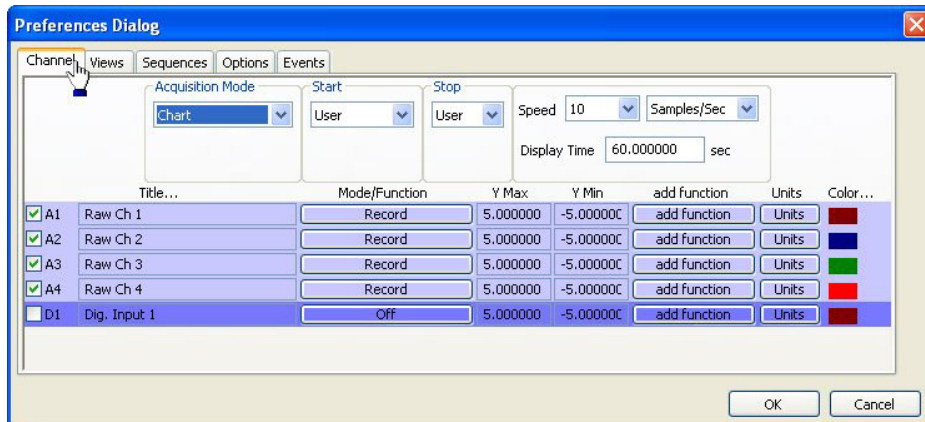

Fig. 39—Preferences Dialog window, Channel Tab
- Select the **Channel** tab from the **Preferences Dialog** window (**Fig. 39**). A list of channels displays in the bottom half of the window. A1 represents channel one, A2 represents channel 2, etc. A check in the checkbox next to a channel indicated that it is selected to receive data input. Each field on the table is configurable.